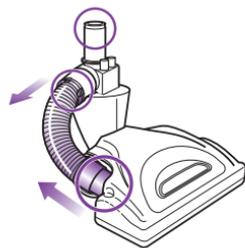

Fig. 27
- Detach the hose on the motorised floor brush at the top by squeezing the tabs together and pulling out, and at the bottom by pulling out the connector. Inspect inside the 3 holes. (Fig. 27)